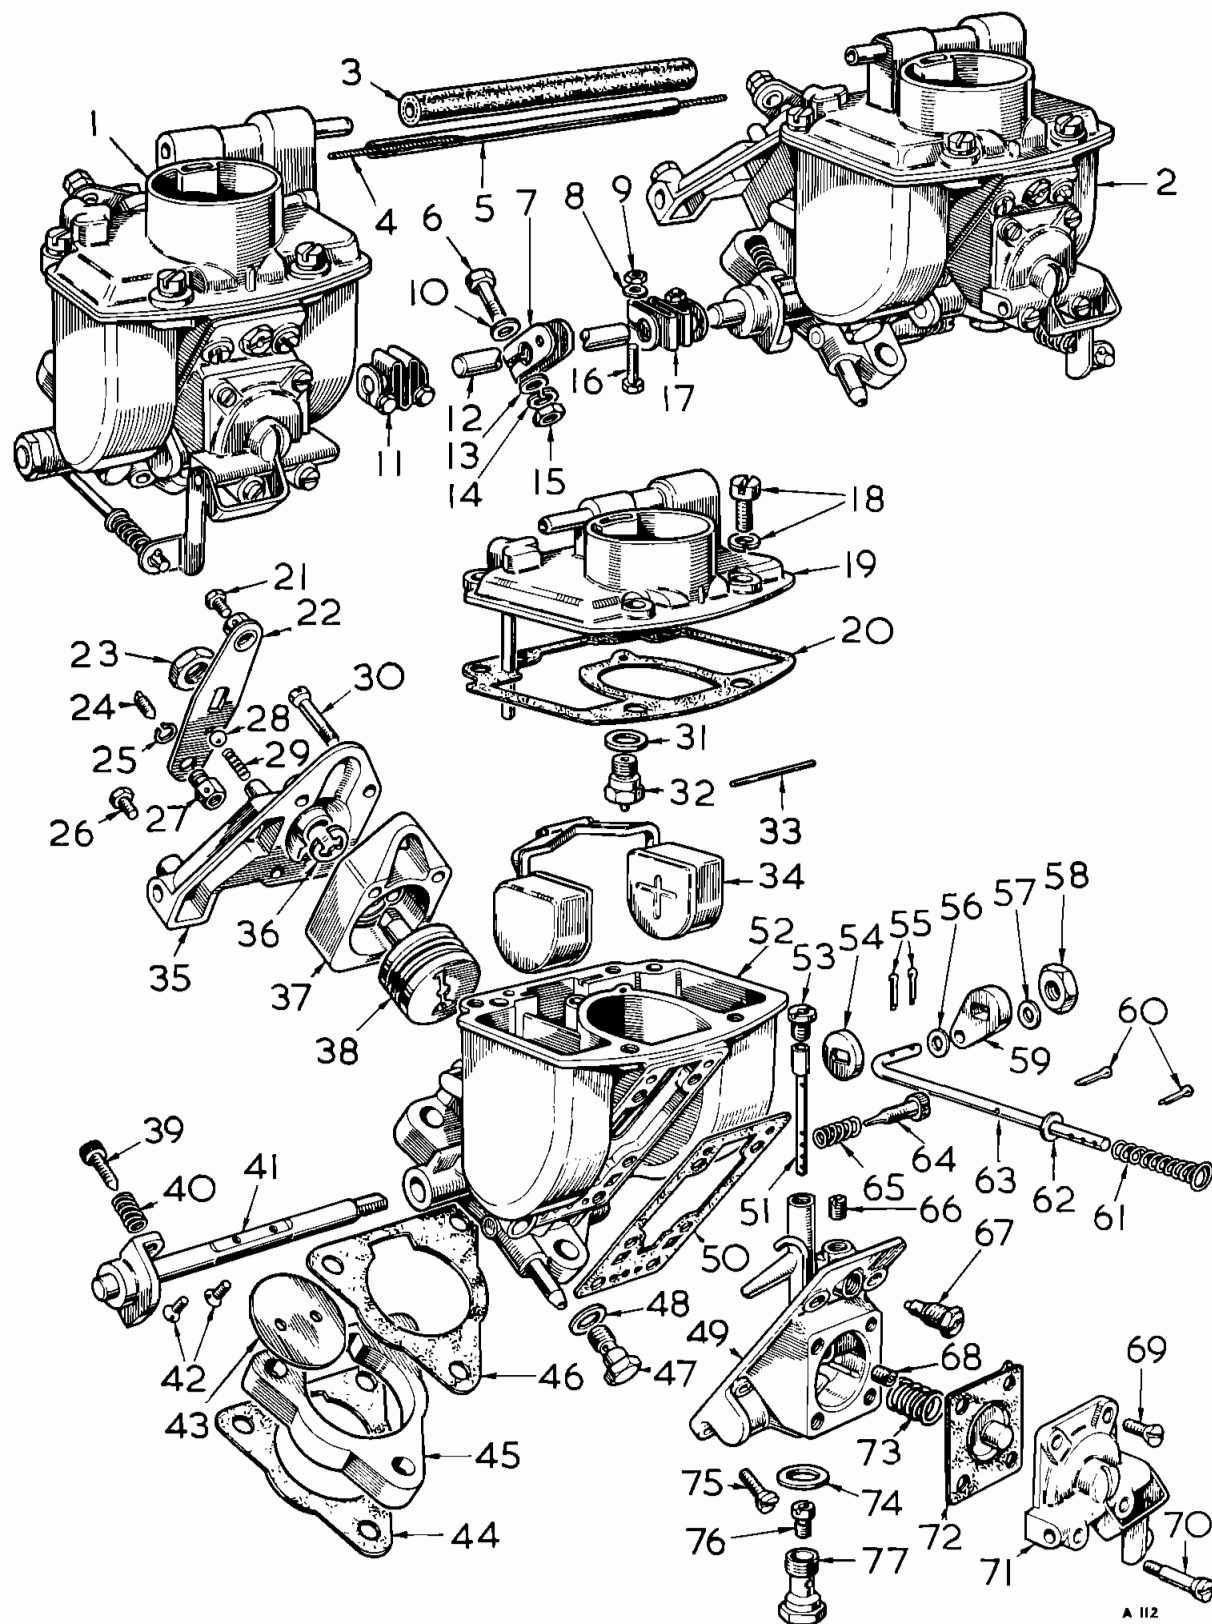

Fig. 27. Exploded B32 P1H semi-downdraught carburettor
Key to Fig. 27
1. Remove the pump jets (68), Fig. 27, and fit blanking plugs, Part No. 512087.
2. Disconnect and remove the pump operating rods (63).
3. Remove the operating arms from the diaphragm covers (71), by drifting out the securing pins.
**Removal (Fig. 27)**